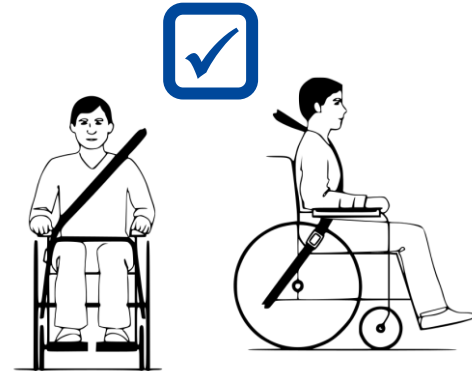

Figure 2 *Proper belt-restraint fit*
7. Make sure that the shoulder-belt restraints fit over the shoulders, see figure 2.